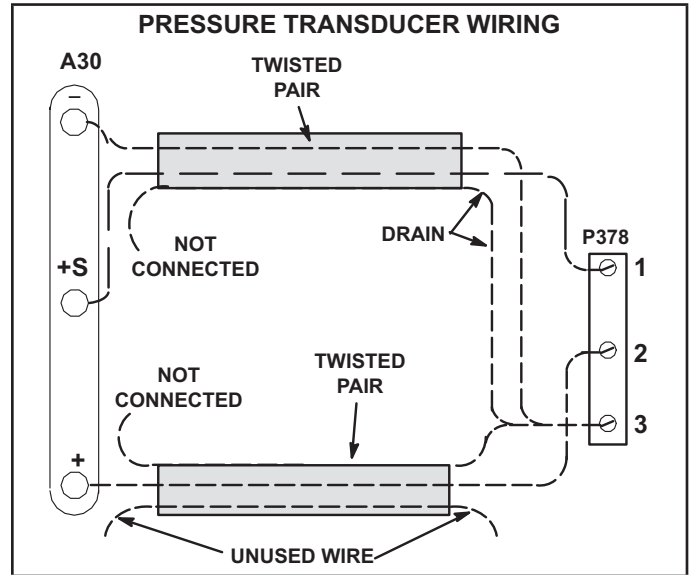

FIGURE 43
- 2 - Two twisted pairs of shielded cable must be used to connect the pressure transducer. See FIGURE 43. J/P378 connector is hanging in the control box.